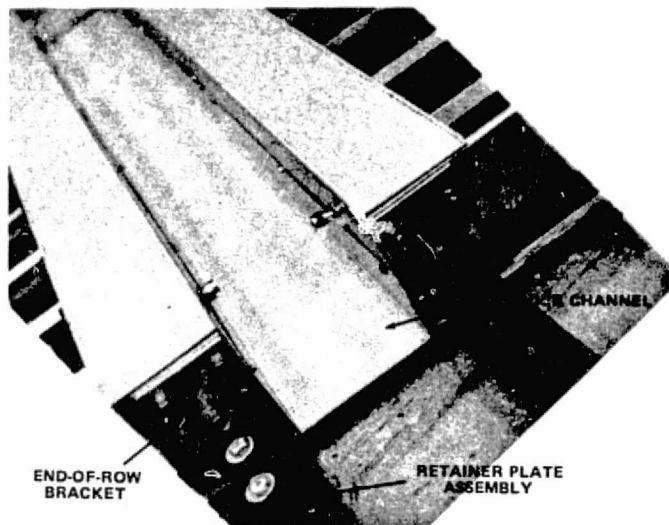

Figure 3-16. In Dual Arrangement, Place the Next Collector Below the First
9. Place the collector and channel assembly on the UNISTRUT below the first collector row installed (Figure 3-16) with the T-brackets in position. Attach the header channel to the top collector using two of the screws removed in Step 1.
10. Place an internal T-bracket (pinned) into each UNISTRUT and insert into the corresponding holes in the collector. Verify the correct location and squareness of the first collector, and secure the retainer plates, (Figure 3-16), to the UNISTRUT.